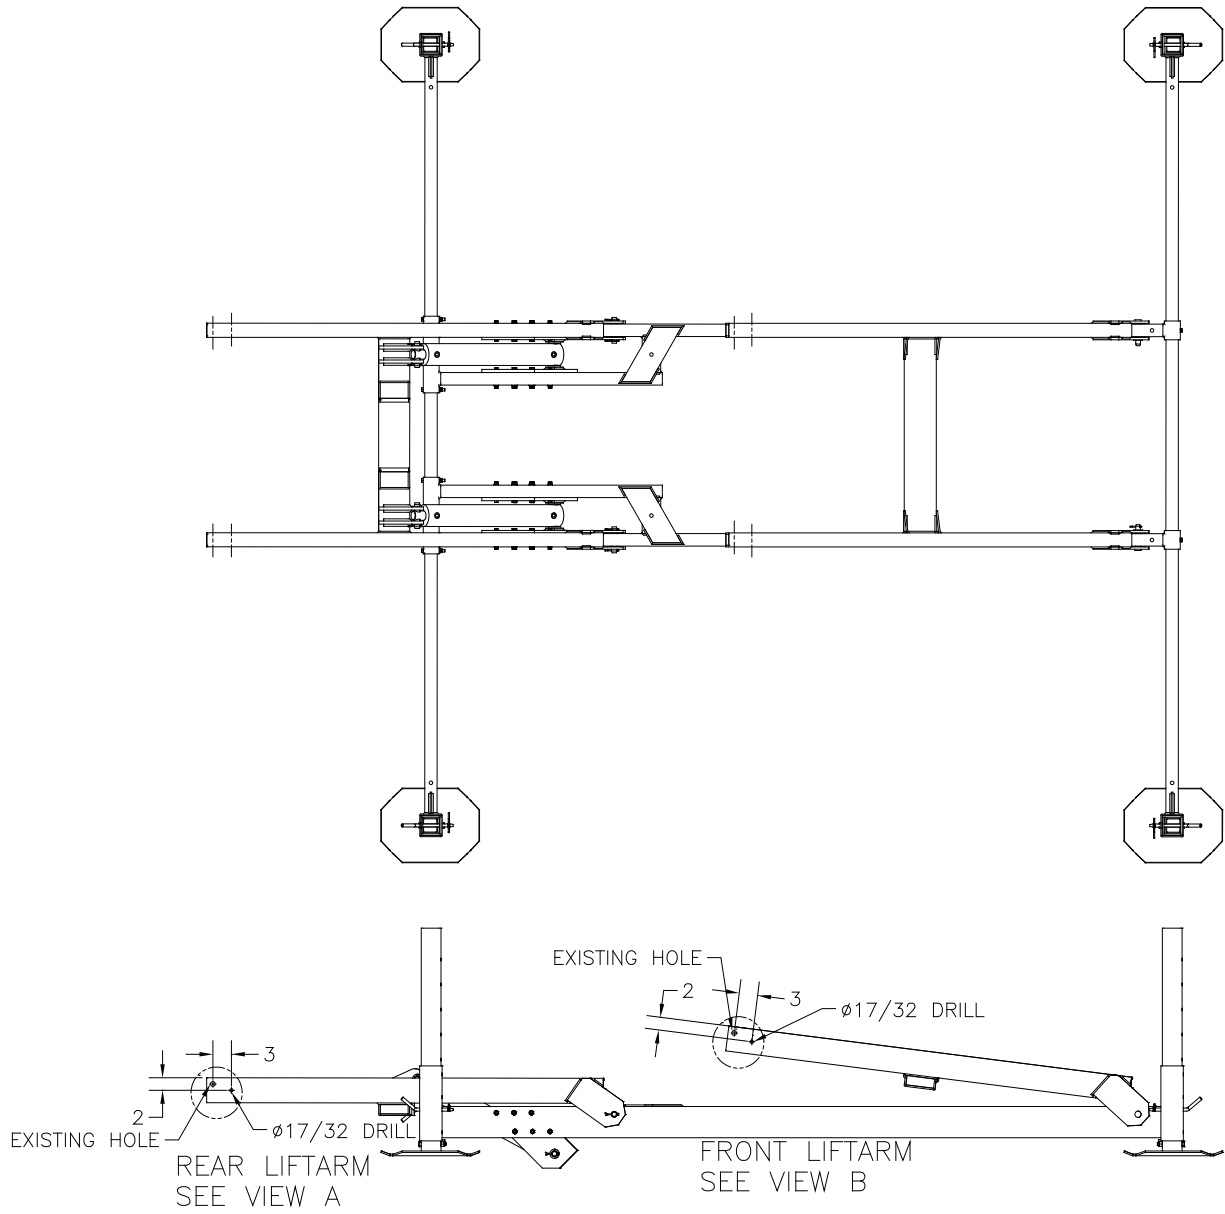

Figure 2-1B.
2. **Refer to Figure 2-1B & 2-2B.** Layout the holes shown in figures 2-1B & 2-2B for HL5-7K-60" lift. Drill 17/32" holes through front and rear liftarms.